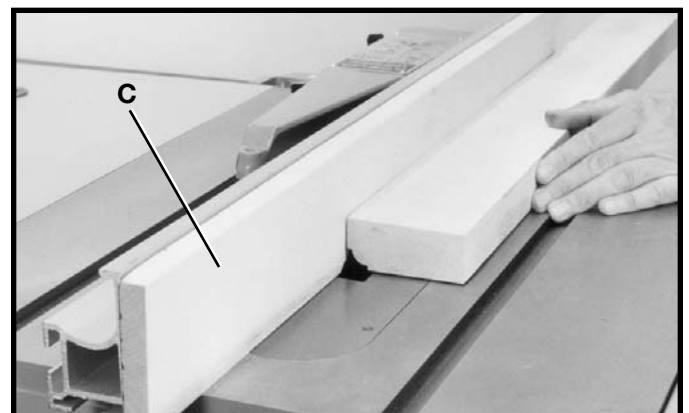

Fig. 67
It is necessary when using the moulding cutterhead to add wood-facing (C) to the face of the rip fence, as shown in Fig. 67. The wood-facing is attached to the fence with wood screws through holes which must be drilled in the fence. 3/4 inch stock is suitable for most work although an occasional job may require 1 inch facing.
Position the wood-facing over the cutterhead with the cutterhead below the surface of the table. Turn the saw on and raise the cutterhead. The cutterhead will cut its own groove in the wood-facing. Fig. 67, shows a typical moulding operation.